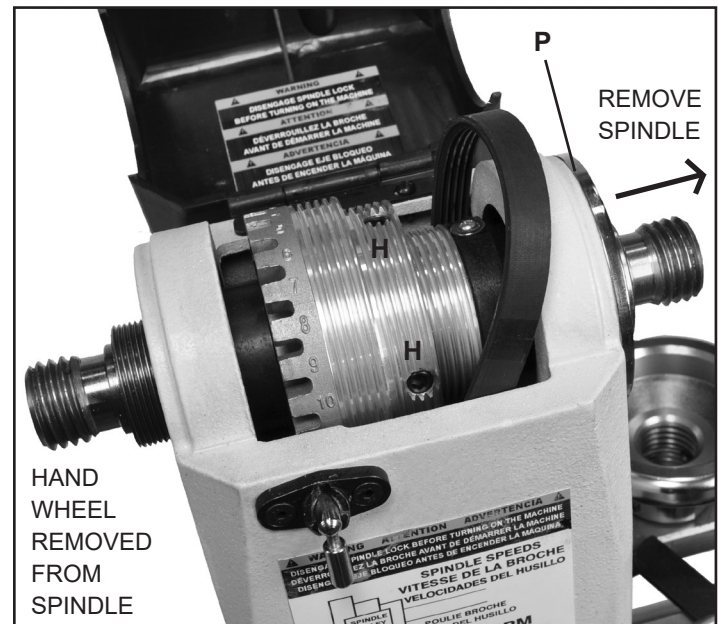

FIG. 16
7. At the opposite inboard side of the headstock, remove the Bearing End Plate (#6B) by unscrewing the 3 hex head Screws (#5B) with a 3mm hex wrench. FIG. 16, P.
8. Remove and loosen the Set Screws (FIG. 16, H) that attach the Spindle Pulley (#24B) to the spindle. The pulley should now be loose on the spindle. **NOTE:** There are two (2) set screws (#22B & 23B), one on top of the other, in both of the two (2) threaded holes. This stacking keeps the set screws from loosening during use.
Once there is enough space, the old drive belt can be removed around the spindle end, and replaced with the new belt. Figure 16.